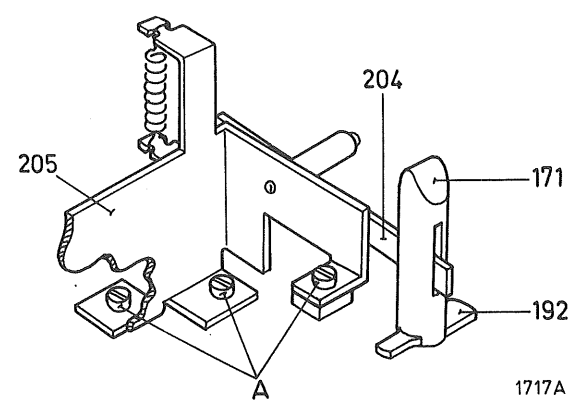

Fig. 7
- Replacing the control buttons (170 - 175) (see Figs. 7 and 8)
- Remove bracket 197 (193)